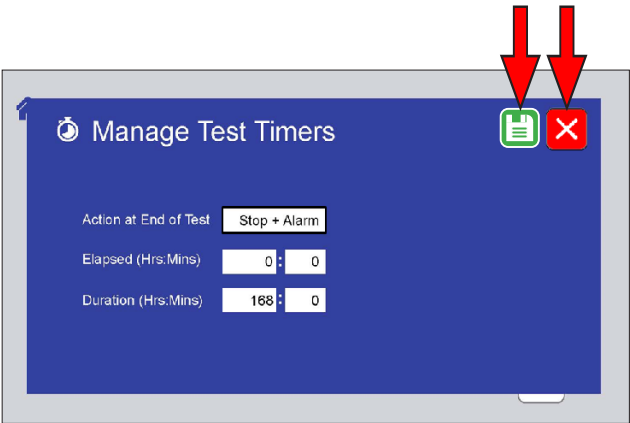
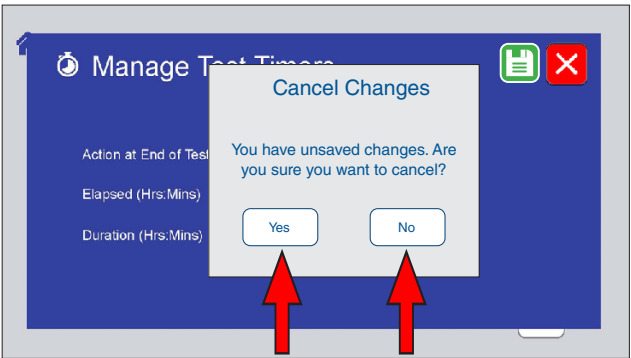

Figure 11.5f: If any changes have been made, touch the save changes icon or the cancel changes icon to re-display the Main Menu screen.
Figure 11.5g: If the cancel changes icon is touched, the operator is prompted for verification. Touch Yes or No.
- If any changes are made to Manage Test Timers, the operator can accept or cancel the changes (Figure 11.5f and Figure 11.5g)